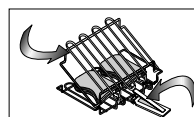

Fig. 10
- 3) Once racks have been removed, the top rack can be easily “opened” by pressing down on the top part of the handle, thus releasing the toast on to a plate, without getting burned (fig. 10).